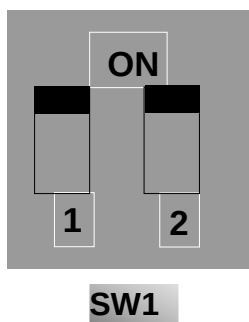

Figure 8-4
- vi. There is a red two-digit coding switch SW1 near the control terminal block, as shown in Figure 8-4. The function of coding switch is to select the voltage signal (0~5V/0~10V) or current signal of analog input terminal AI2, current channel is default. In actual application, select the analog input channel through F203. Turn switches 1 to ON and 2 to ON as illustrated in the figure, to select 0~20mA current speed control. Other states and modes of these switches are shown in table 8-2,